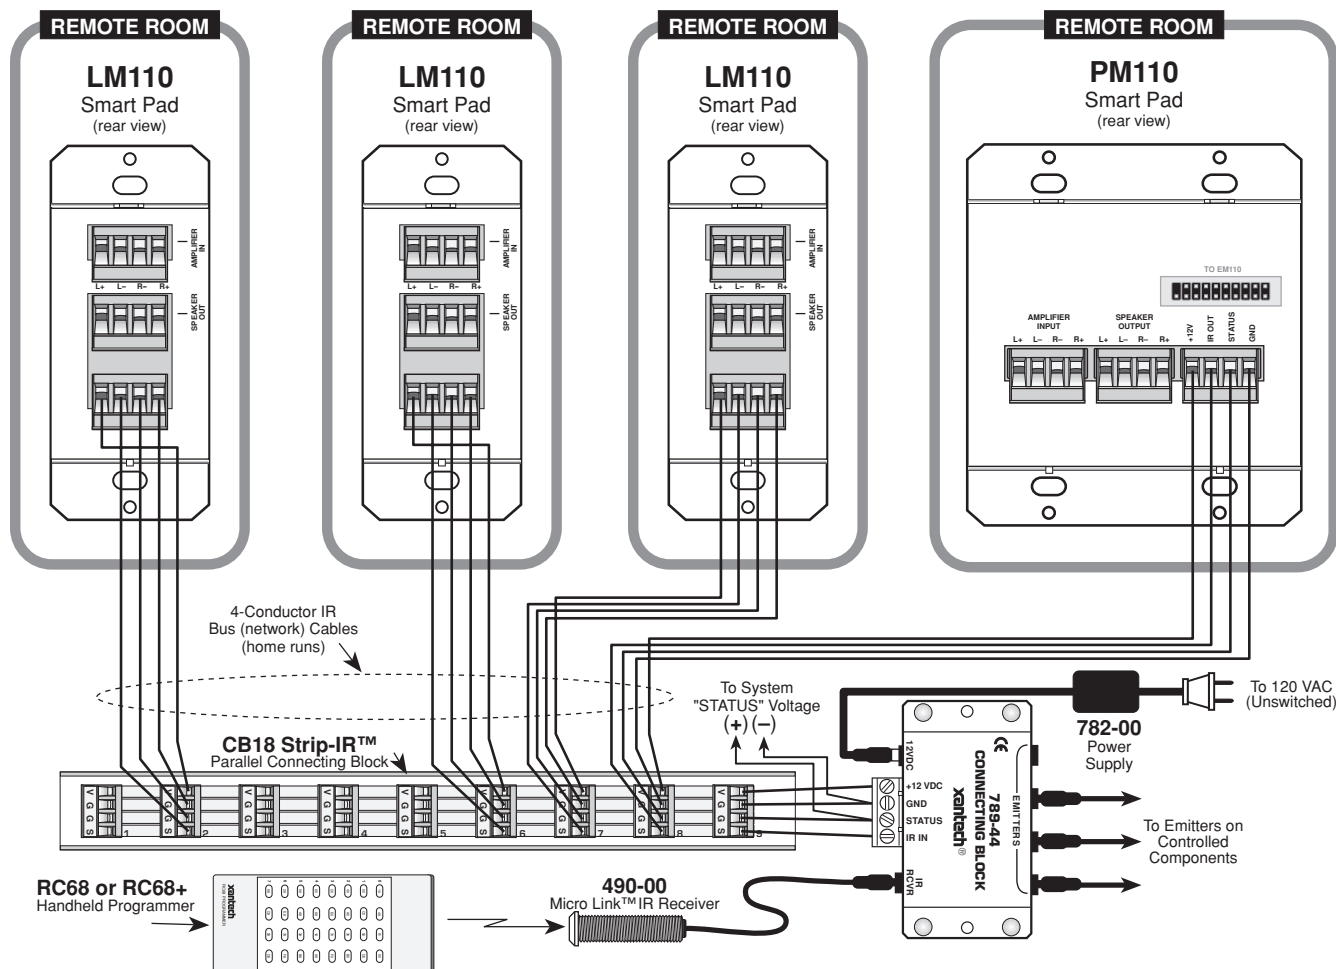

Fig. 31 PM110 to LM110's Network Transfer (Cloning)
Network Transfer greatly facilitates the cloning of keypads when you have a number of keypads on the same IR bus (network), up to a maximum of 16. This would apply to multi-room single zone systems, or to multi-zone systems where you may have two or more keypads per zone. Even in multi-zoned systems, you could make up a temporary common IR network by using one or two CB18 Strip-IR's, rather than cloning each one individually (refer to **Fig. 31**).
- Connect up to 16 keypads onto a common IR bus (network). Refer to **Fig. 31**. Be sure the system is powered up.